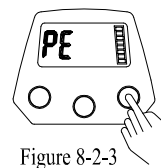

Figure 8-2-3
3. After selecting "PE", press "RESET" and the line number will appear on the screen (Figure 8-2-3).